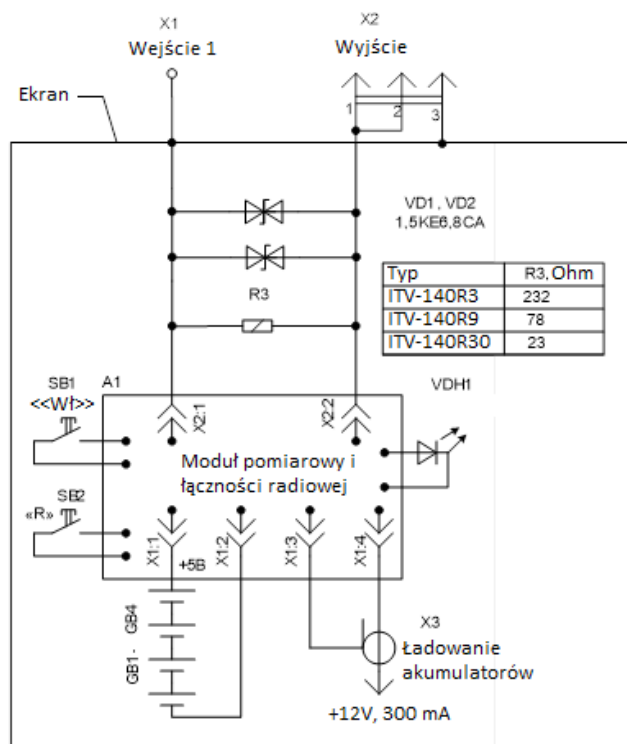

Figure 1. High-potential block ITW-140R-BV.
1.4.2 The electrical schematic diagram of the ITW-140R-BV high-potential unit is shown in Figure 1, the external view is shown in Figure 2.